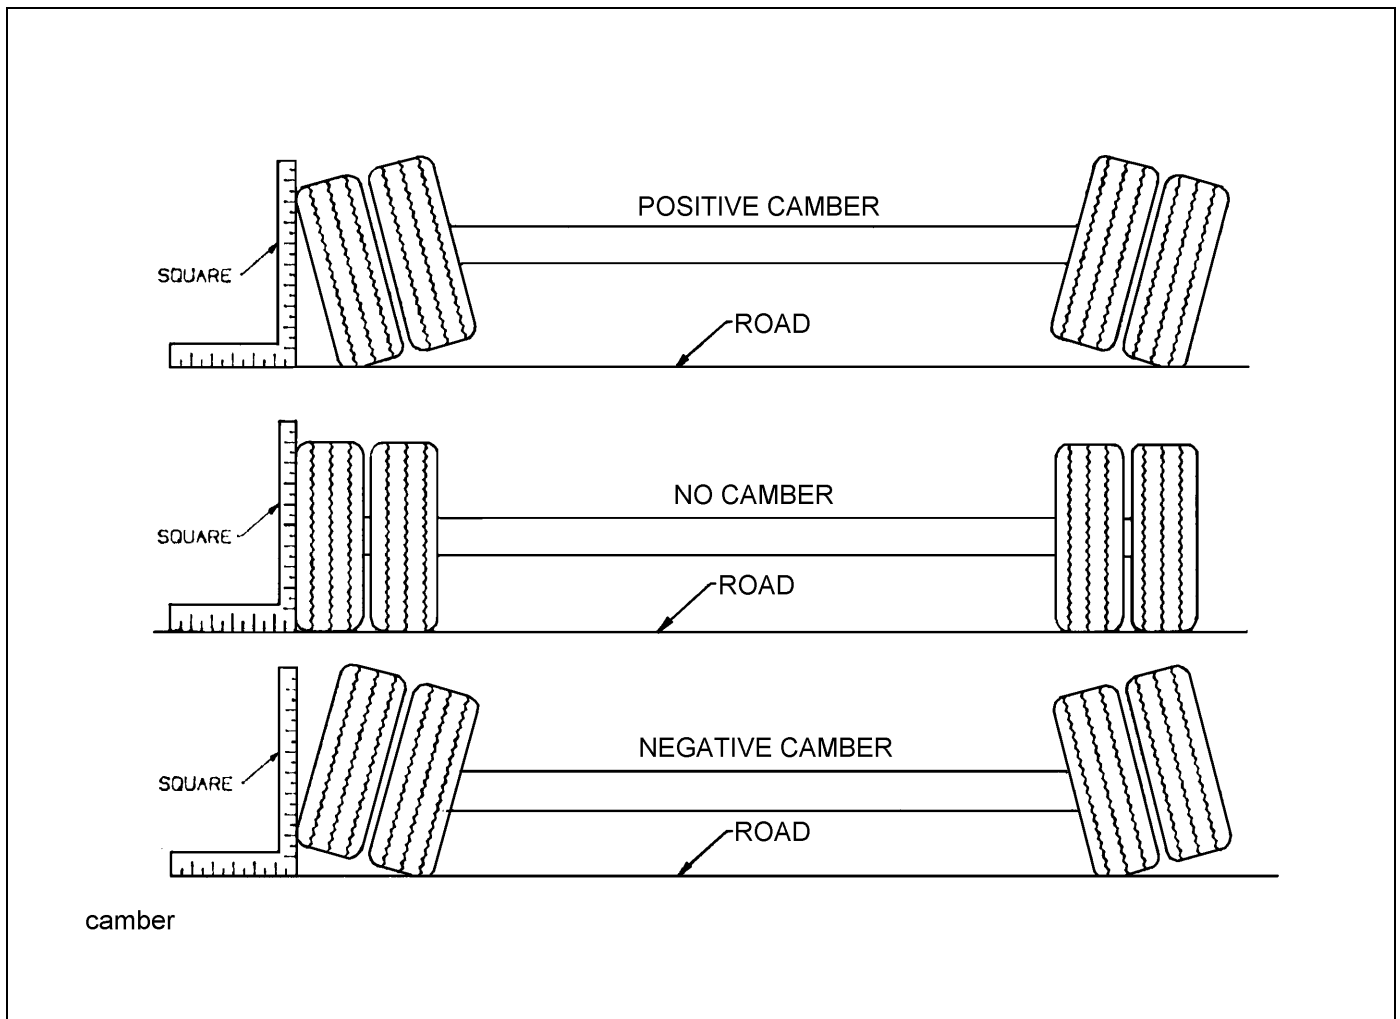

Figure 4-7: Examples of Camber
4. Follow the same procedures as in **steps 2 and 3**, except place the axle gauge above and below the axle. If gauge point gap is found, the axle has positive or negative camber. The trailer axle has no camber from the factory. If it is found to have positive or negative camber, axle replacement is necessary. **See Figure 4-7** for examples of camber.